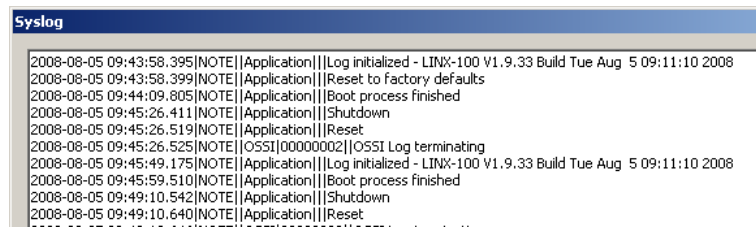

Figure 118: System log window.
3. When the upload is finished, click on **Show System Log**. The system log window appears as shown in Figure 118.